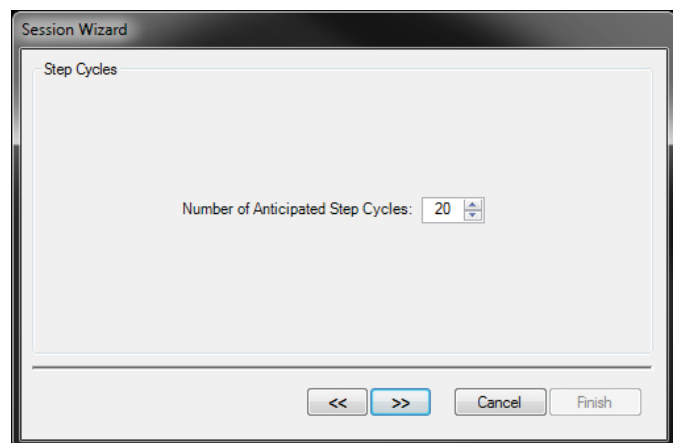

**Figure 12: Standard Reset and Cutoff Voltages (left), or check the Custom Box (right) and Manually Enter**
- a. Standard **Reset** and **Cutoff Voltages** are (See Figure 12):
- b. Check the Custom Box to enter any two voltages for evaluation. Figure 12.